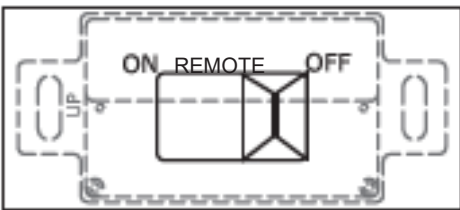
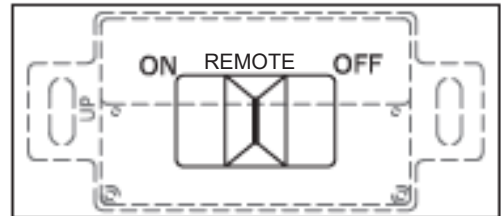
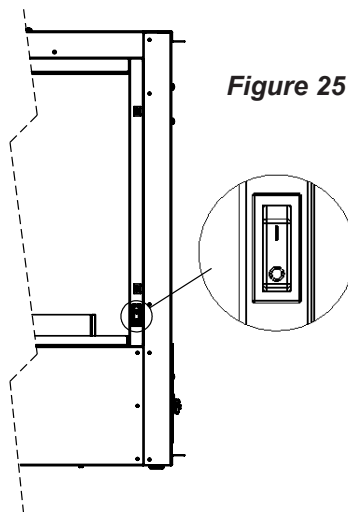

Figure 24A - Control Switch in OFF Position
Figure 24B - Control Switch in Remote Position
Figure 25 - Power Switch
4. Set the Power Switch (behind Front Screen, Figure 25), and Control Switch to the **OFF** positions (Figure 24A).
6. Wait five (5) minutes to clear out any gas.
10. Locate Control Switch, either inside the unit (see *Product Identification on page 4*), or mounted in adjacent wall. Move the Control Switch to the REMOTE position (see Figure 24B).